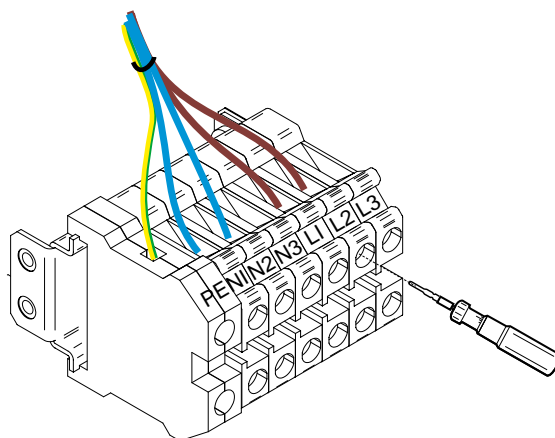

Figure 4-10 AC Cable Connection (1-phase)
- 1-phase 110VAC or 230VAC (Figure 4-10)